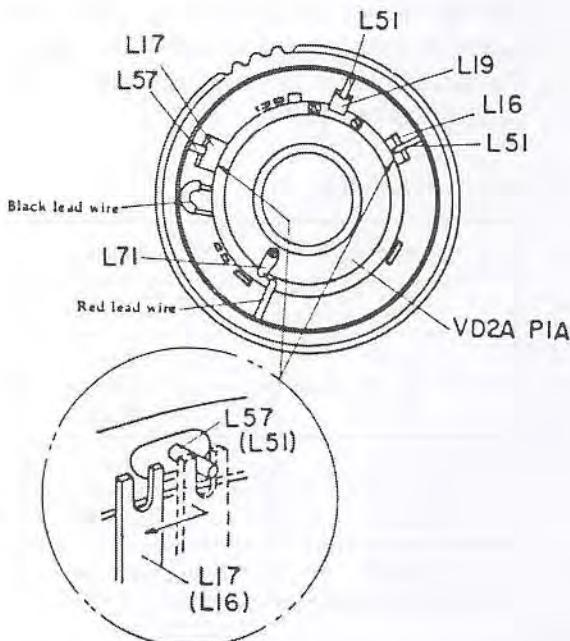

Fig. 2
- C. The black color lead wire connected to the synchronizer is provided with vinyl tube insulator. Move it to one side, and unsolder. Unsolder and disconnect the red color lead wire from the lag plate (L71). Next, disconnect the diaphragm lever (L16) and M-X changeover lever (L17) from the connecting pins (L51) and (L57). Fig. 2